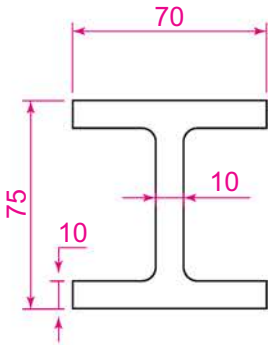

Fig. 9.35 Example Sweep – the outline to be swept
1. Construct the pline outline Fig. 9.35 in the **Top** view.